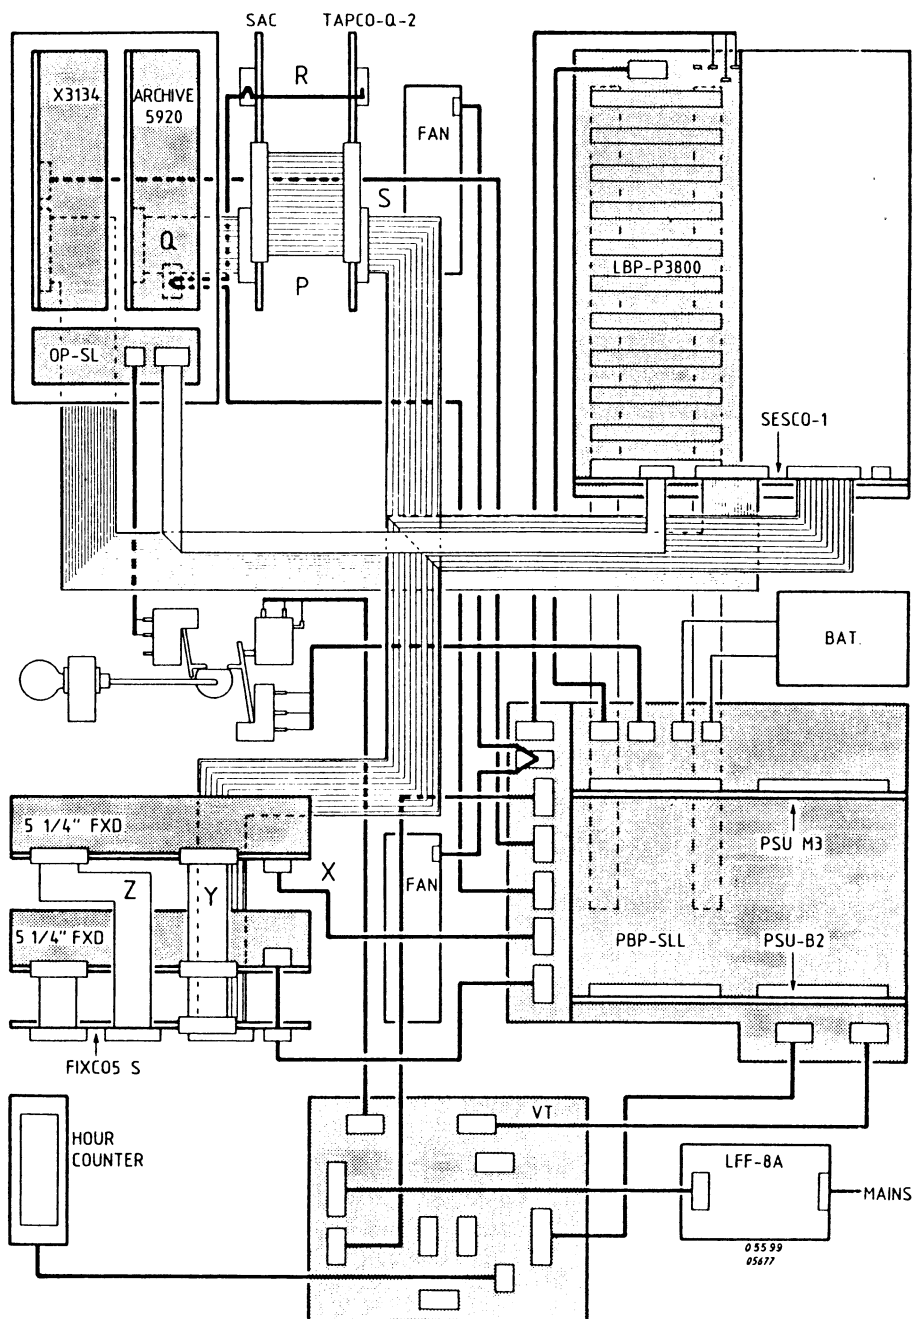

Figure 2.5 INSTALLATION OF OPTIONS
- Connect the power, data and control cables as indicated in figure 2.5.
- Bend one of the two flatcables thus that you can connect it from TAPCO-Q2 to the SAC Controller. Connect this cable to the SAC Controller J1 connector (fig.2.5 P).
- Connect the other flatcable to the SAC controller J3 connector. (fig. 2.5 Q).
- Connect the power cable to the SAC and TAPCO-Q2 (fig.2.5 R).
- Connect existing SASI Cable to the TAPCO-Q2. (fig. 2.5 S)
- Connect the cable on connector J3 of the SAC to the STREAMER TAPE DRIVE. (fig.2.5 Q).